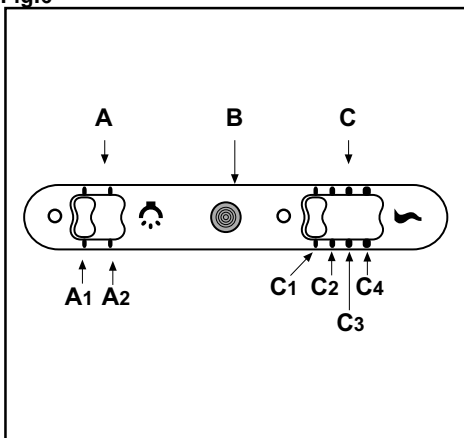

Fig.8
• **COMMANDS:** (Fig.8) SLIDER the key symbols are explained below: